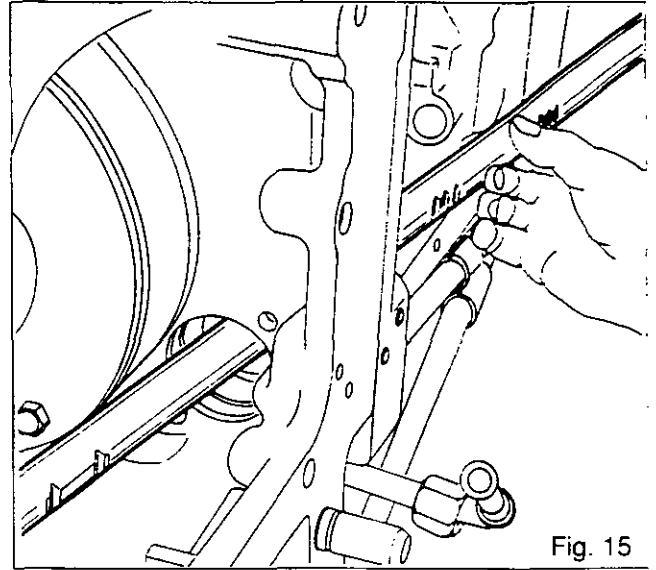

Fig. 15
67. Withdraw the selector rail through the selector cover access panel after passing it through the High/Low range cylinder bore (Fig. 15).
72. Carry out procedure 67 in reverse (Fig. 15).
74. Check that the ports of the Hare/Tortoise range hydraulic cylinder (10) are not blocked.